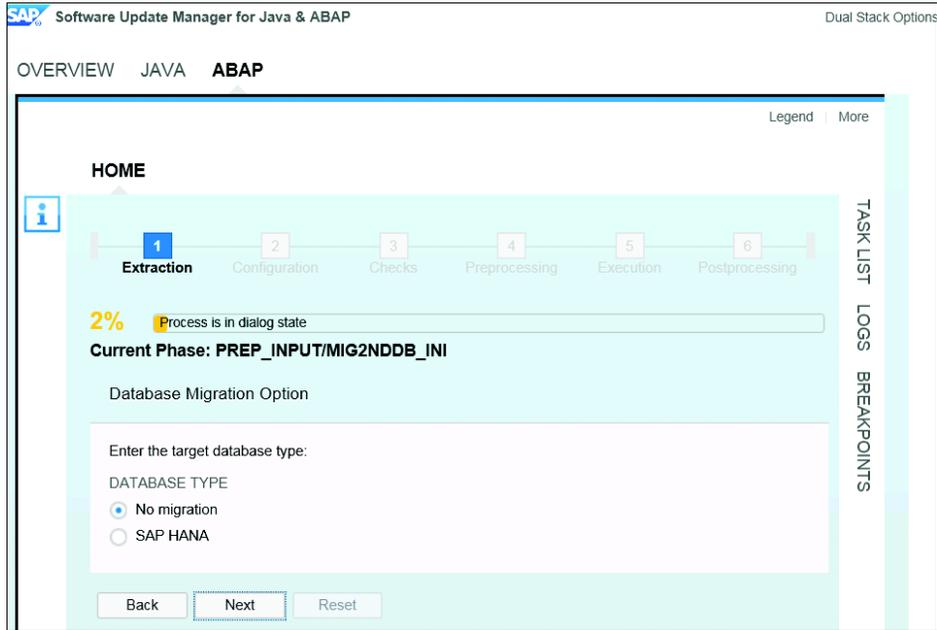

Figure 44 Select Database Migration Option
9. If you plan on migrating to SAP HANA, select SAP HANA as the target database type. If you do not, select NO MIGRATION. Select NEXT (see Figure 44).